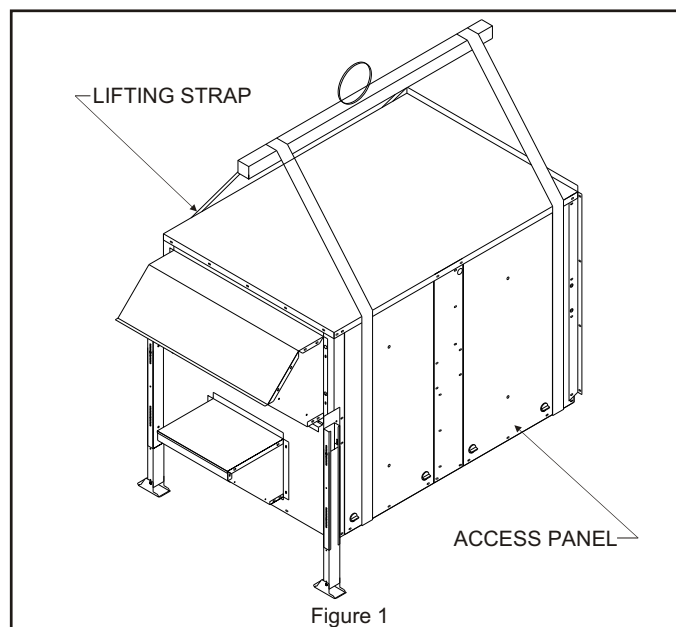

Figure 1
2. Remove crating. Then remove access panel to retrieve bag assembly. **See Figure 1.** Replace access panel.
4. Lifting straps are needed to lift the unit as shown in **Figure 1.**